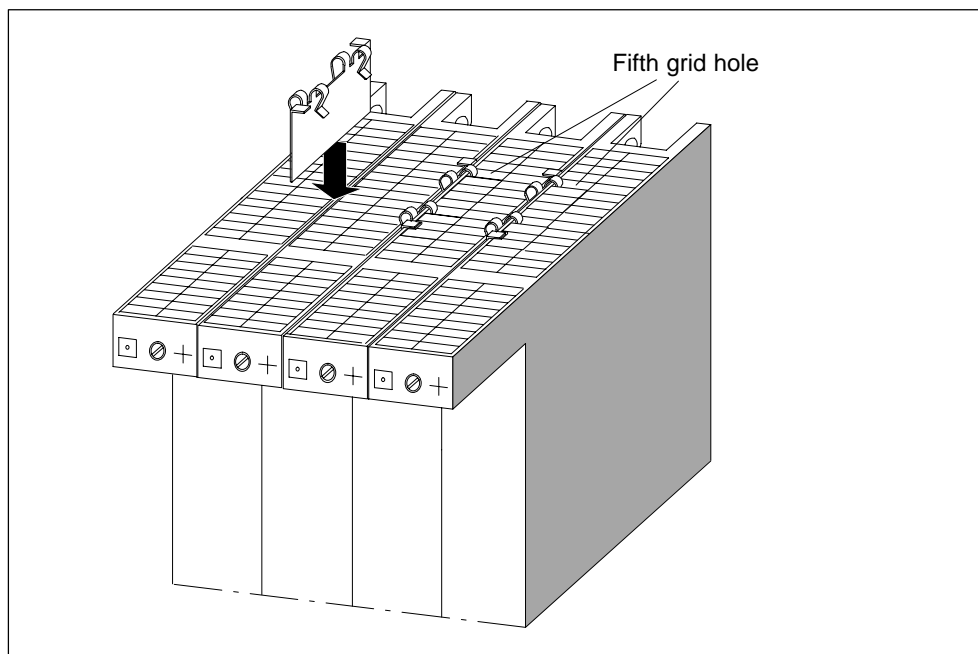

Figure 8-11 Securing the Modules with Connecting Clips (Schematic Diagram)
1. As shown in Figure 8-11, slide a connecting clip from above between the two modules to be secured until the bent clip ends touch the housing cover of the modules.
3. Press the connecting clip on its two 90° ends downward until it engages. Figure 8-11 shows a connecting clip in its final position.